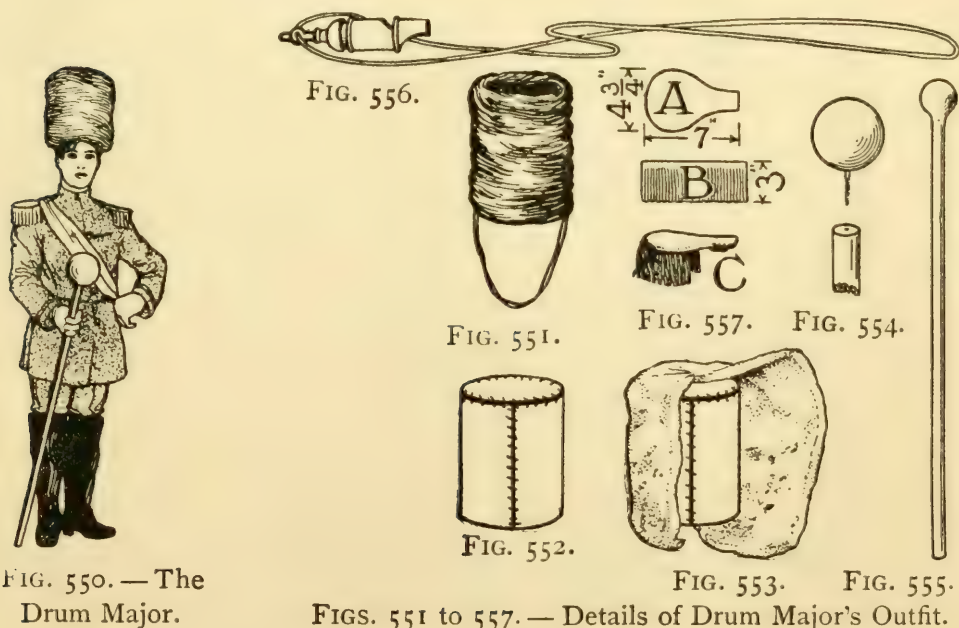

FIG. 550. — The Drum Major.
**The Drum Major** (Fig. 550). Choose for your drum-major the boy who can twirl a stick the best.